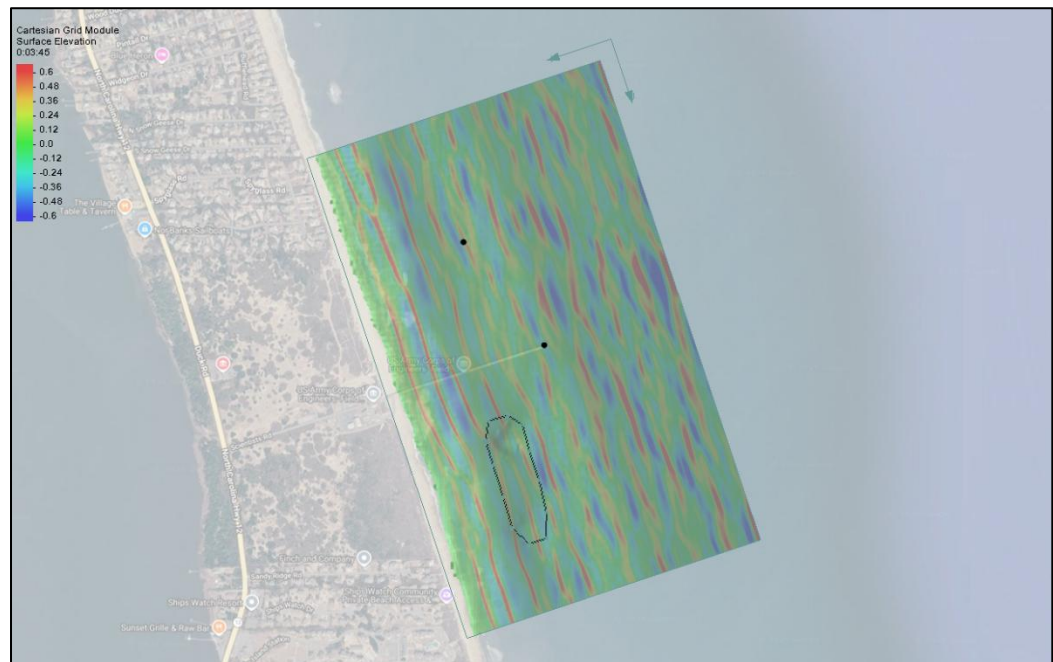

Figure 3 Reef simulation
The solution consists of water surface elevations and wave velocities (directions) for 20 timesteps at the end of the simulation see Figure 3. These timesteps start at 225 seconds (3:45 minutes) into the simulation and are saved about every 1.5 seconds by FUNWAVE.
8. Click the **OK** button to close the *Display Options* dialog. The Graphics Window should look similar to Figure 3.